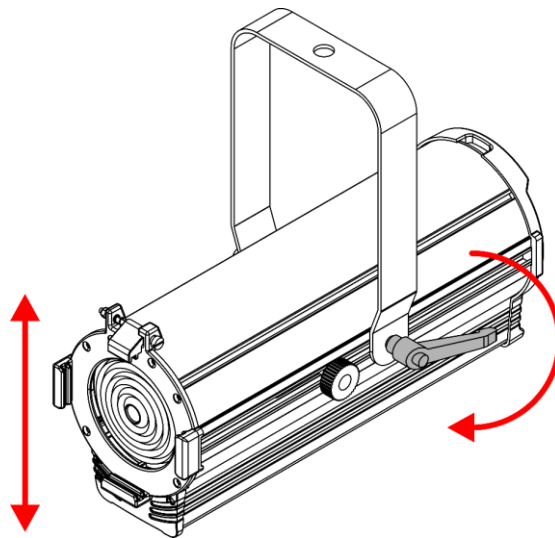

Fig. 08
- 01) Turn the **adjustment handle (03)** counterclockwise to loosen it.
- 02) Tilt the device to the desired angle (see Fig. 08).
- 03) Turn the **adjustment handle (03)** clockwise to tighten it.